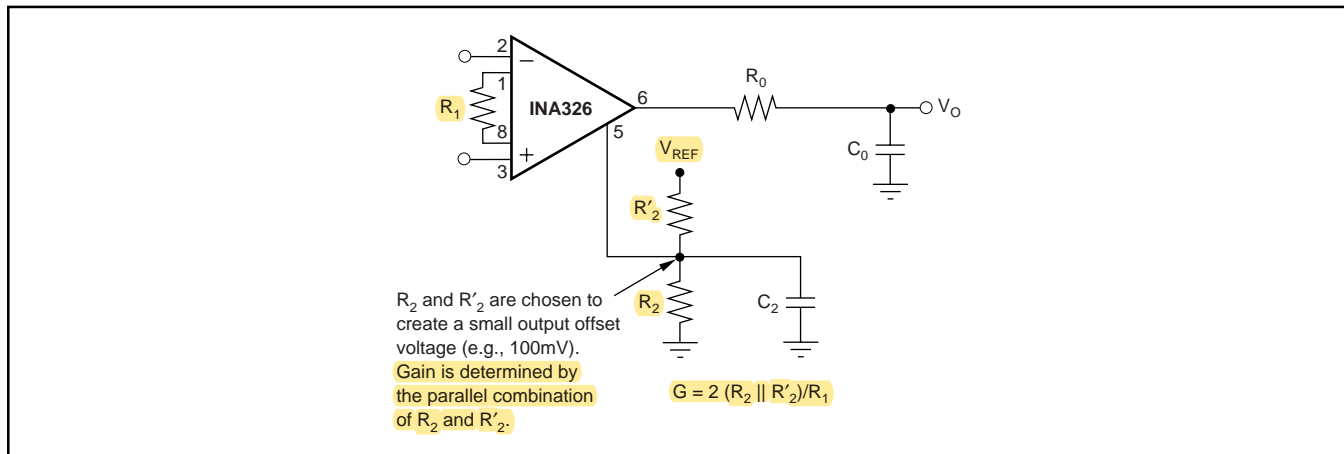

FIGURE 6. Generating Output Offset Voltage.
NOTES: (1) C_2 and C_O combine to form a 2-pole response that is -3dB at 1kHz . Each individual pole is at 1.5kHz . (2) Output voltage is referenced to I_{A_COMMON} (see text). (3) Output offset voltage required for measurement near zero (see Figure 6).